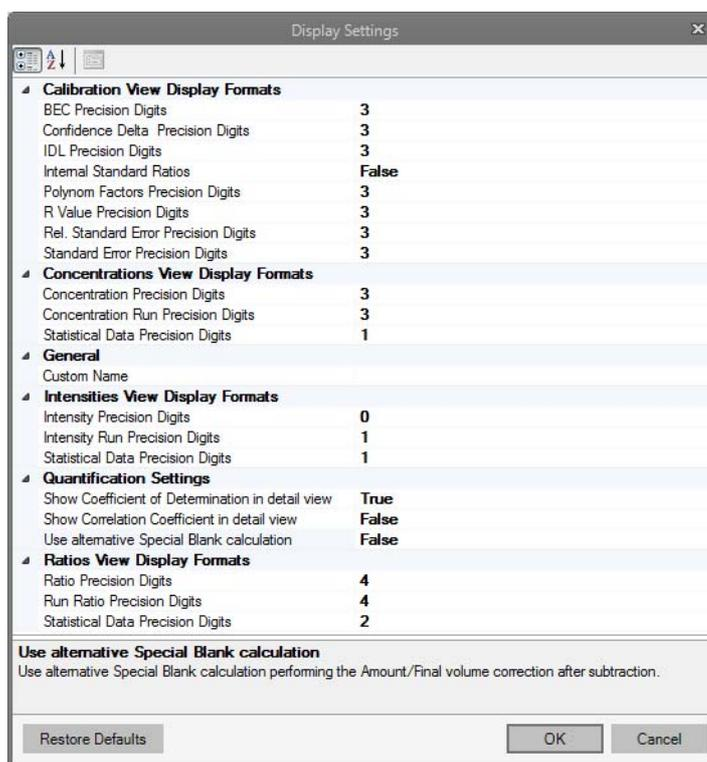

Figure 6-40. Display Settings dialog showing the default values
1. On the LabBook toolbar, click **Display Settings** to open the Display Settings dialog, see Figure 6-40.